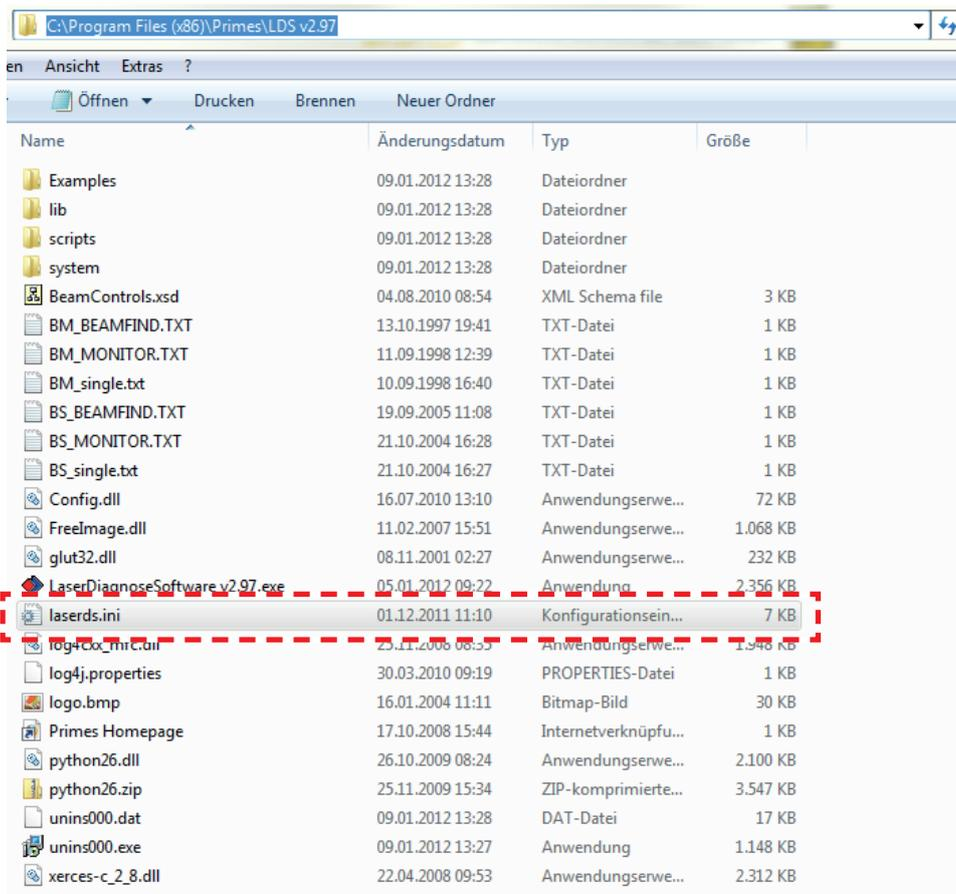

Fig. 19.24: File Laserds.ini
2. Open the **laserds.ini** file (marked file in Fig. 19.24) with an editor.